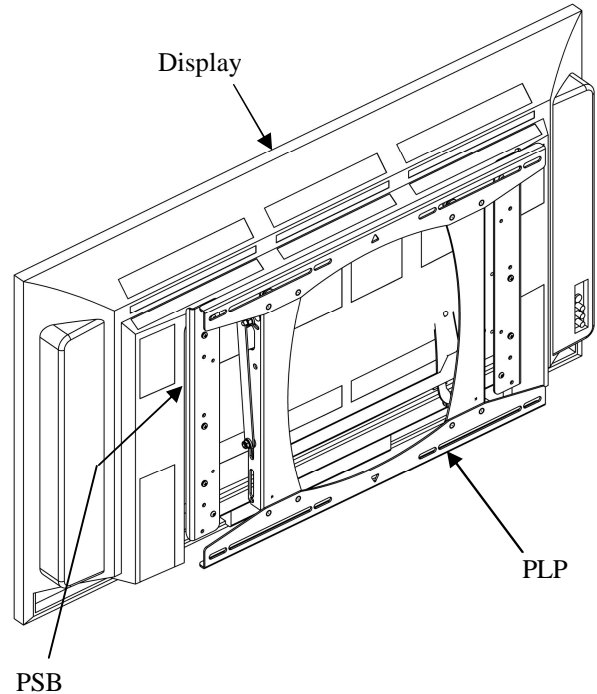

Figure 8. Install the Display
1. With the aid of another person, lift the display up to the mount on the wall, aligning mounting buttons with the teardrop slots on the mount, and lower the display firmly into place (Figure 8).